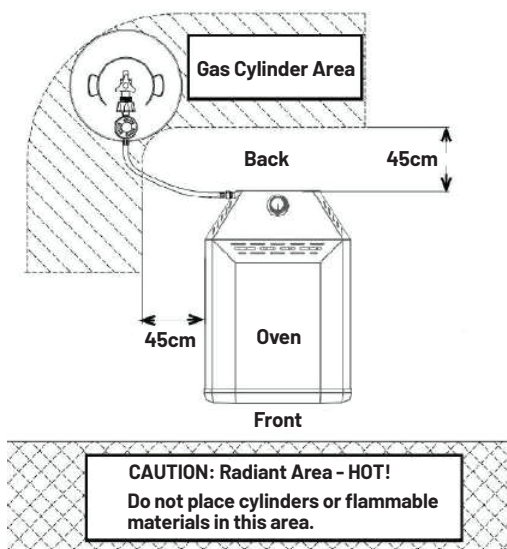

Figure 4
- 5.** Maintain a minimum distance of 45 cm between the appliance and the cylinder (Figure 4).